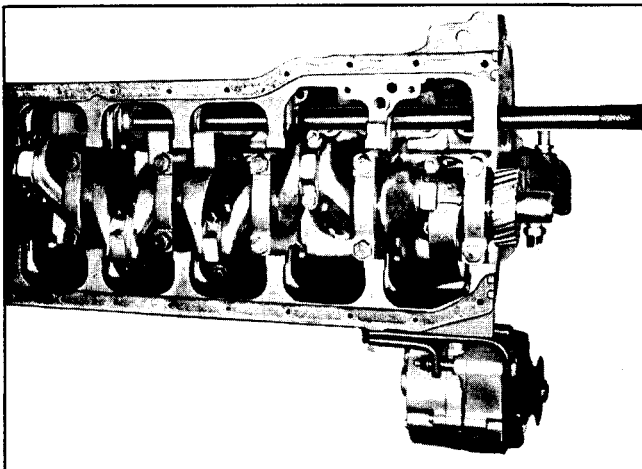

Fig. 6-51 Removing Center Camshaft Bearings
3. Install extension J-21054 on installer J-21473-1 and drive center two bearings out toward rear (Fig. 6-51).